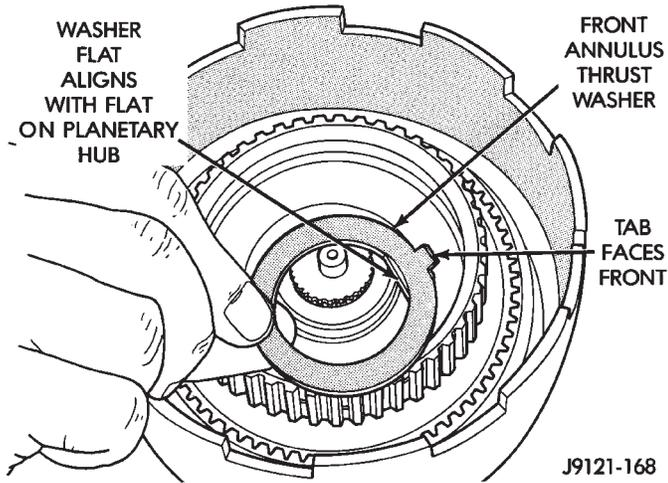

Fig. 204 Installing Front Annulus Thrust Washer
(19) Install thrust washer in front annulus (Fig. 204). **Align flat on washer with flat on planetary hub. Also be sure washer tab is facing up.**